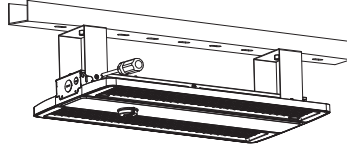

Figure 7
Step2. Assemble the lamp on the bracket and fix it with screws (Figure 7);